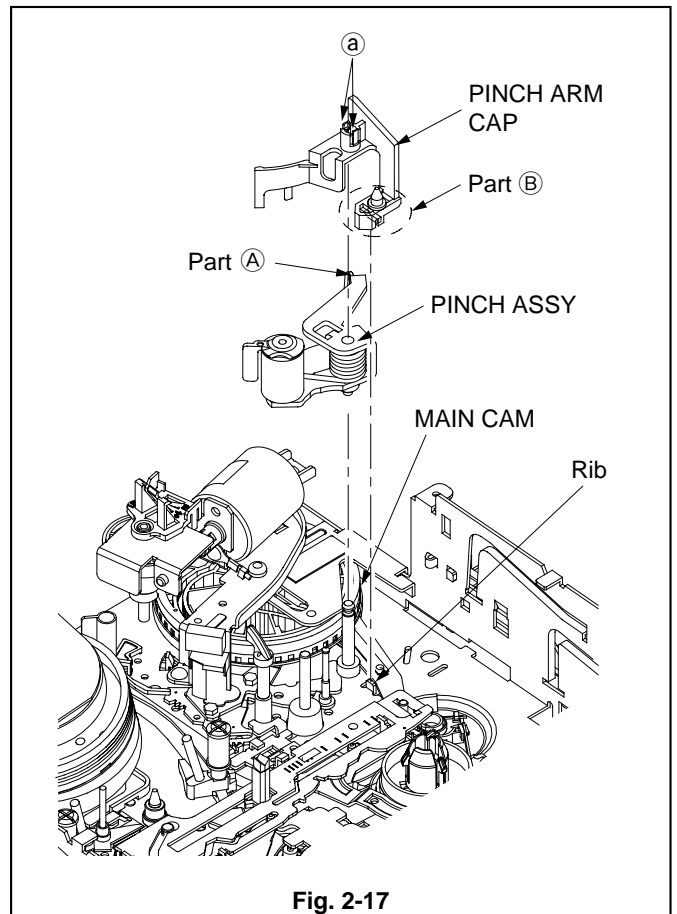

Fig. 2-17
1. Release the two catches (Ⓐ) of the PINCH ARM CAP shown in the Fig. 2-17 to remove the PINCH ARM CAP.
2. Remove the PINCH ASSY shown in the Fig. 2-17.
1. Insert Part Ⓐ of the PINCH ASSY shown in the Fig. 2-17 in the most external groove of the MAIN CAM.